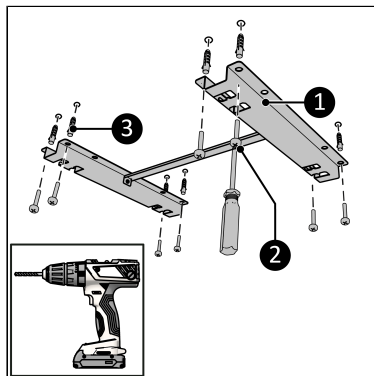

Figure 42.
4. Place the bracket against the ceiling and mark the eight holes (Figure 42).
6. Place wall plugs (Figure 42, pos. 3).
7. Screw and tighten the bracket (Figure 42, pos. 1) to the ceiling with eight large screws using a Phillips screwdriver (Figure 42, pos. 2).